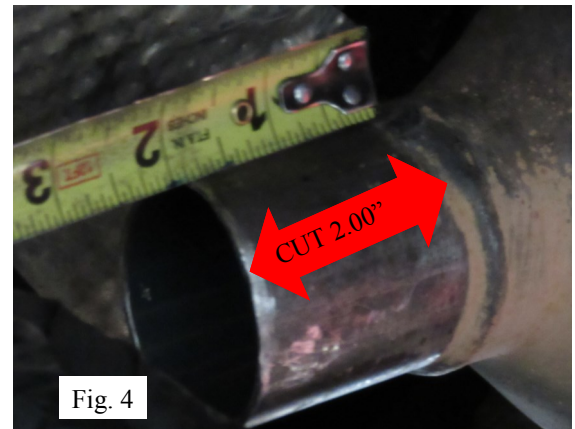

Fig. 4
1. Measure and mark a 2" cutting line behind the driver side catalytic converter. Cut pipe using a metal-cutting blade saw. (See Fig. 4)